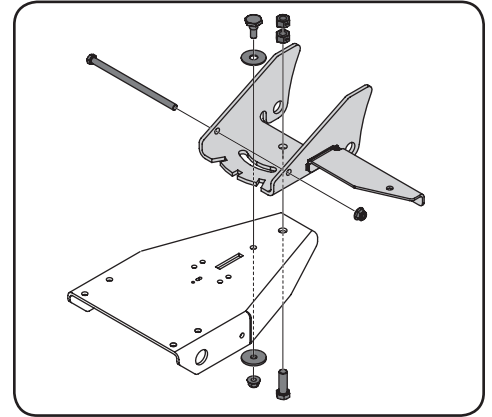

Figure 2-10
1. Secure pivot plate assembly (689-00632) to blade tongue (789-00471) with 1 bolt (710-3181) and 2 hex nuts (712-3022) found in hardware pack 5 (689-00688). Do not overtighten. Pivot Plate assembly and Blade Tongue should rotate freely. See Figure 2-10.
2. Secure pivot plate assembly (689-00632) to blade tongue (789-00471) with shoulder screw (938-0507B) and washer (936-0208). Secure pivot plate assembly on the bottom by using washer (736-0234) and nut (712-04065) found in hardware pack 5 (689-00688). See Figure 2-10.
3. Insert screw (710-3261) into pivot plate assembly and fasten with nut (712-04065) found in hardware pack 5 (689-00688). See Figure 2-10.